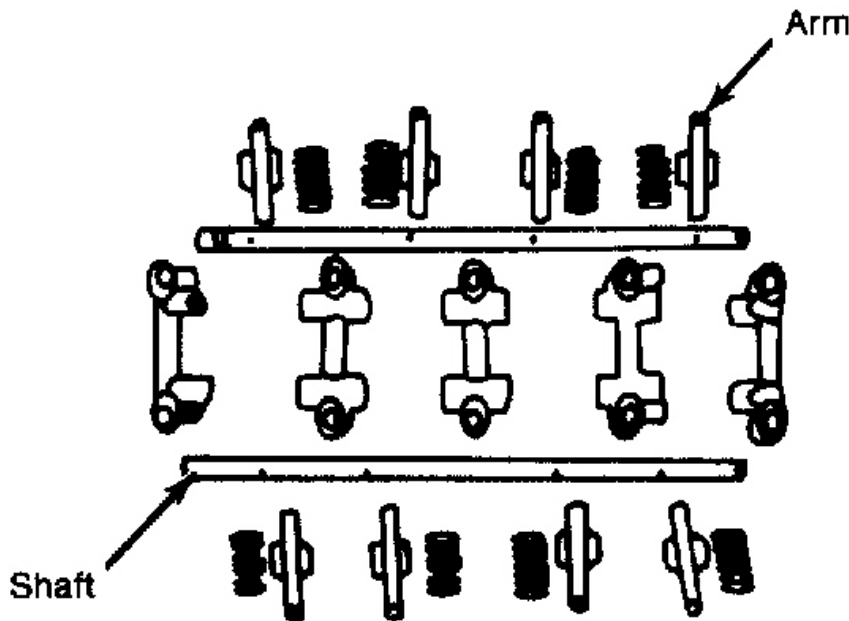

Fig. 6: Disassembled View of Rocker Arm Assembly
2. If clearance exceeds maximum limit, replace rocker arms and/or shafts. Reassemble in reverse of disassembly. Note that rocker arms are identical. See **Fig. 6**.